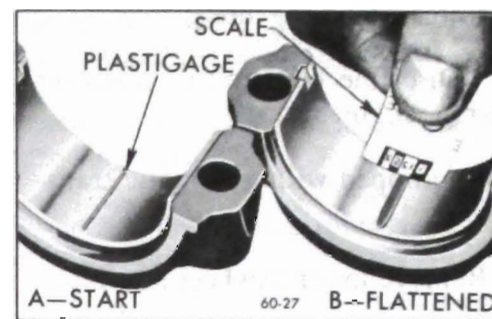

Figure 60-225--Checking Bearing Clearance with Plastigage
2. Place a piece of Plastigage lengthwise along the bottom center of the lower bearing shell (Figure 60-225, View A), then install cap with shell and tighten bolt nuts to 35 lb. ft. torque. (350 Cu. In.) and 45 lb. ft. (455 Cu. In.)
5. Using the scale printed on the Plastigage envelope, measure the flattened Plastigage at its widest point. The number within the graduation which most closely corresponds to the width of Plastigage indicates the bearing clearance in thousandths of an inch. See Figure 60-225, View B.